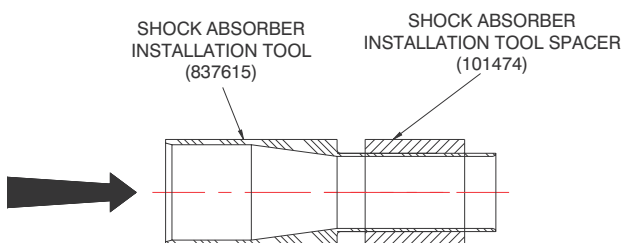

Figure 9-7. Assemble Spacer and Shock Absorber Installation Tool
2. Slide the Spacer, 101474, onto the Shock Absorber Installation Tool, 837615, as shown in Figure 9-7.